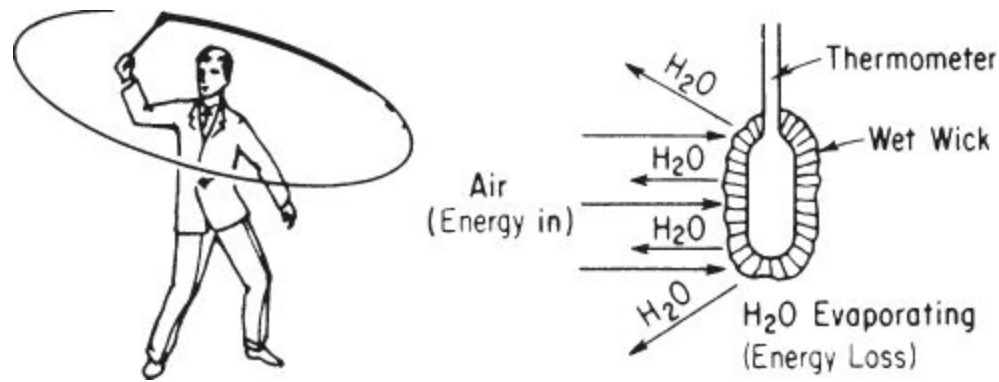

Figure 11.1. Wet-bulb temperature obtained with a sling psychrometer
d. Wet-bulb temperature (T_{WB}) is something new. Suppose that you put a wick, or porous cotton cloth, on the mercury bulb of a thermometer and wet the wick. Next you either (1) whirl the thermometer in the air as in Figure 11.1 (this apparatus is called a sling psychrometer when a wet-bulb and a dry-bulb thermometer are mounted together), or (2) set up a fan to blow rapidly on the bulb at a high linear velocity. What happens to the temperature recorded by the wet-bulb thermometer?